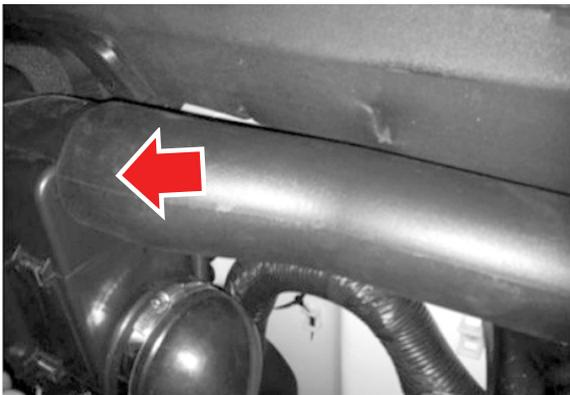

Figure 21-2
2. Apply foam insulation (obtain locally) to the HVAC unit outlet, then install the RH Internal vent duct (A6000076-001) (see Figure 21-2).